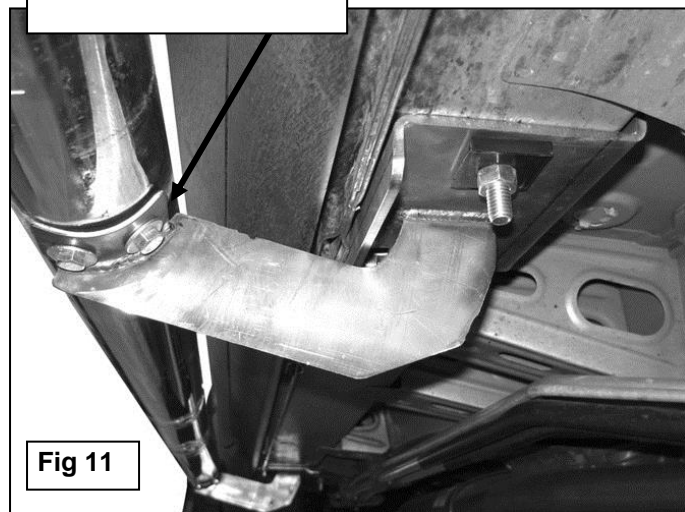

Fig 11
- Carefully position the passenger Sidebar onto the Mounting Brackets. Bolt the Sidebar to the Mounting Brackets with the included (4) 8mm x 25mm Hex Bolts, (4) 8mm Lock Washers and (4) 8mm Flat Washers, **(Figure 11)**.